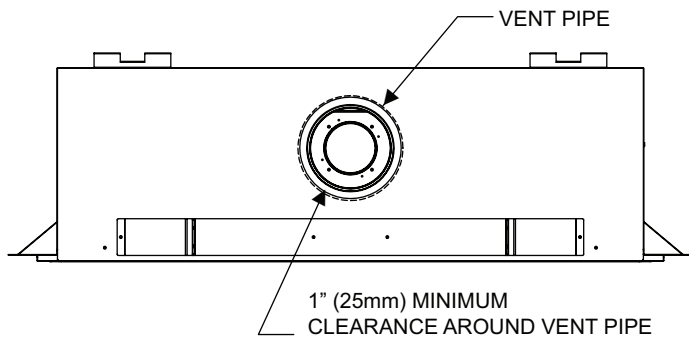
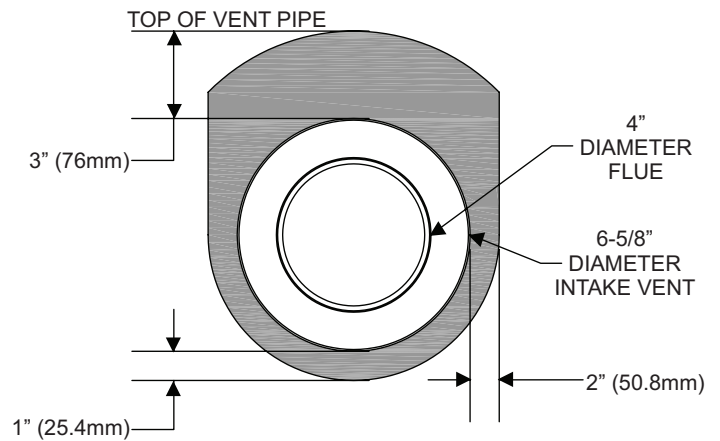

Figure 9
Figure 10
**Note:** Maintain one inch (1 in.) of clearance around vertical vent pipe. **See Figure 9.** For horizontal vent, maintain a minimum 1 in. clearance to the bottom, two inches to the sides of the vent, and 3 in. clearance to combustibles above the vent pipe. **See Figure 10.**